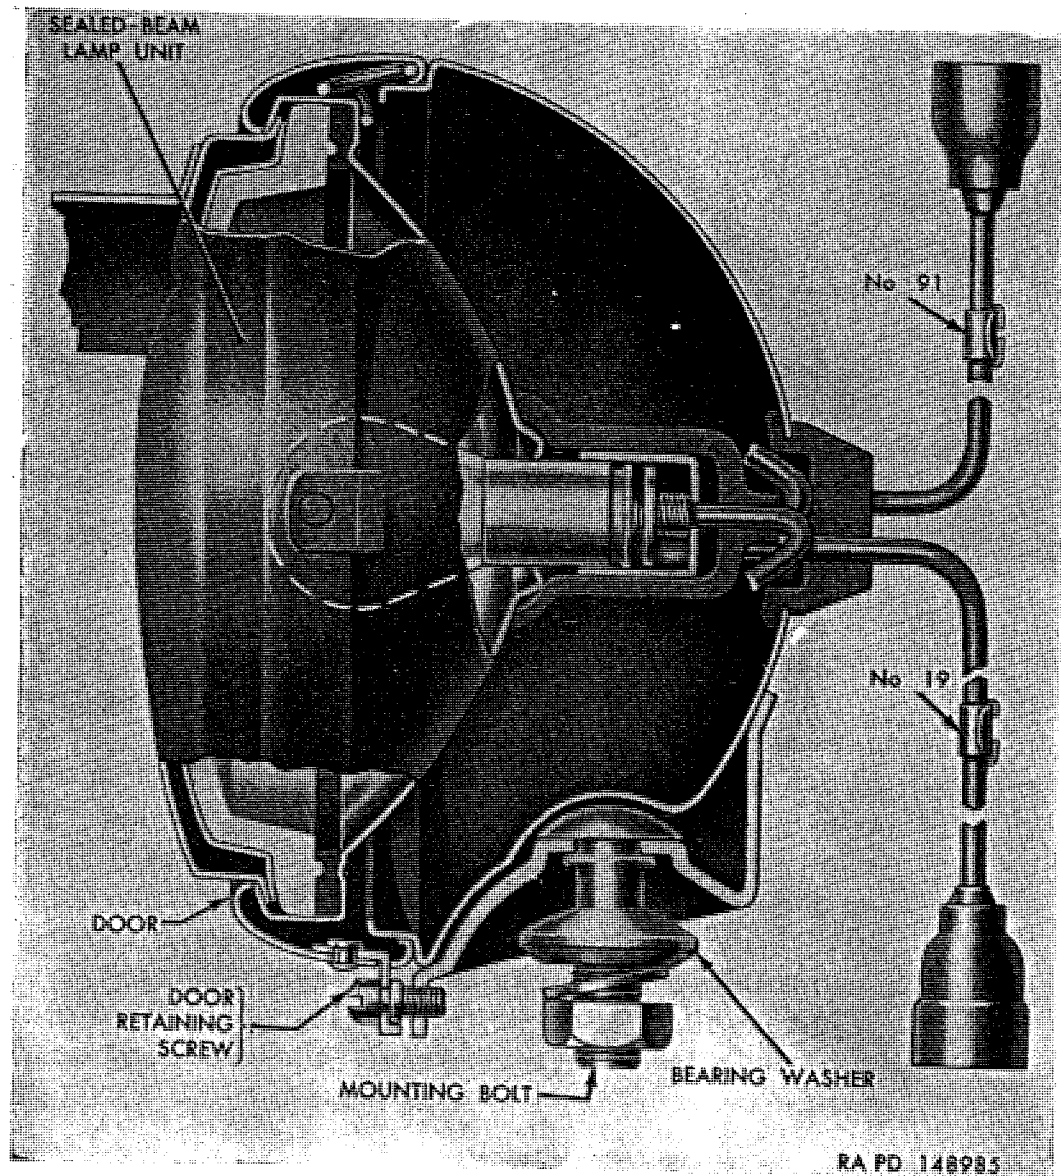

Figure 164. Sectional view of blackout headlight.
a. Sealed-Beam Lamp Unit Replacement (fig. 164).